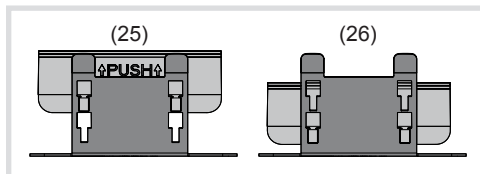

Figure 20: Moving the opening tool
- To open the letter box front 2/1, first move the opening tools from the upper (25) to the lower positions (26) (Figure 20).